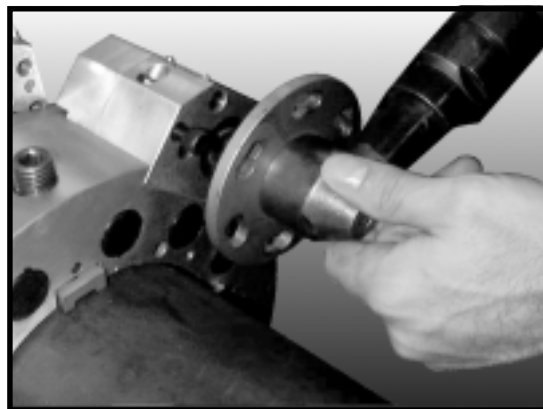

FIGURE 11
32. **Install the air motor** (Figure 11). Begin by loosening the two 5/16-18" SHCS located on the back of the pinion housing.